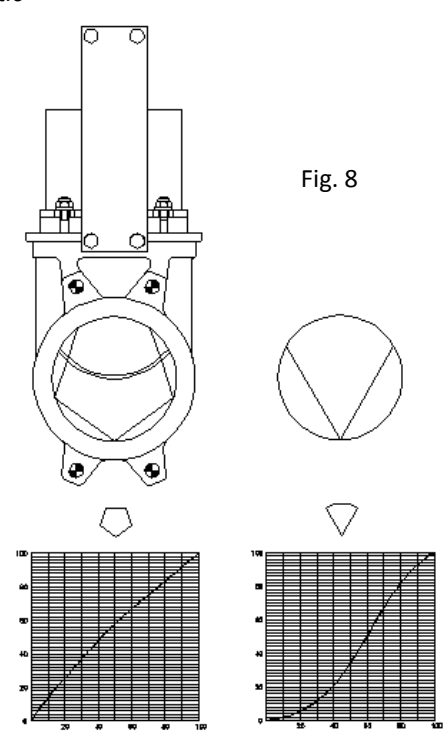

Fig. 8
-Triangular (V-Notch) and Pentagonal Diaphragm with Indication Rule (Fig. 8): Recommended for applications in which flow regulation is required.